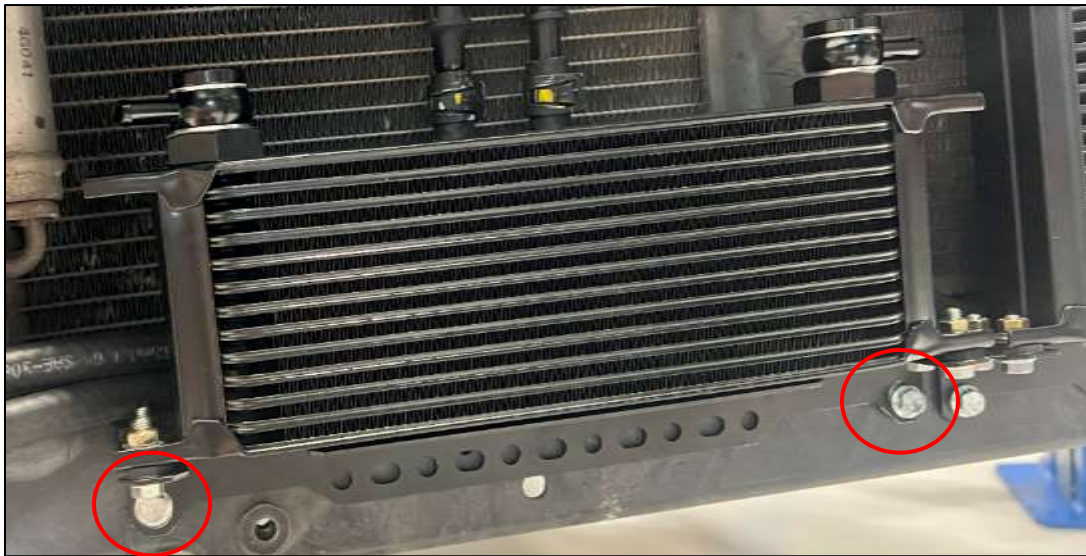

Figure 55
5. Position the Oil Cooler on the Passenger Side Core Support opening. Mark the Core Support to drill with a marker. There are multiple spots you can choose to drill and mount the Procooler. We used the outermost holes on the bracket, seen below in *Figure 55*.
7. Locate (2) two Rivnuts and the Rivnut Tool (In Oil Cooler Kit). Install a Rivnut into each hole made in *Step 6*.
8. Locate (2) two M6 x 1.0 SEMS Bolts, 25mm (#18). Mount the Oil Cooler to the Core Support with the hardware. *Figure 55*.